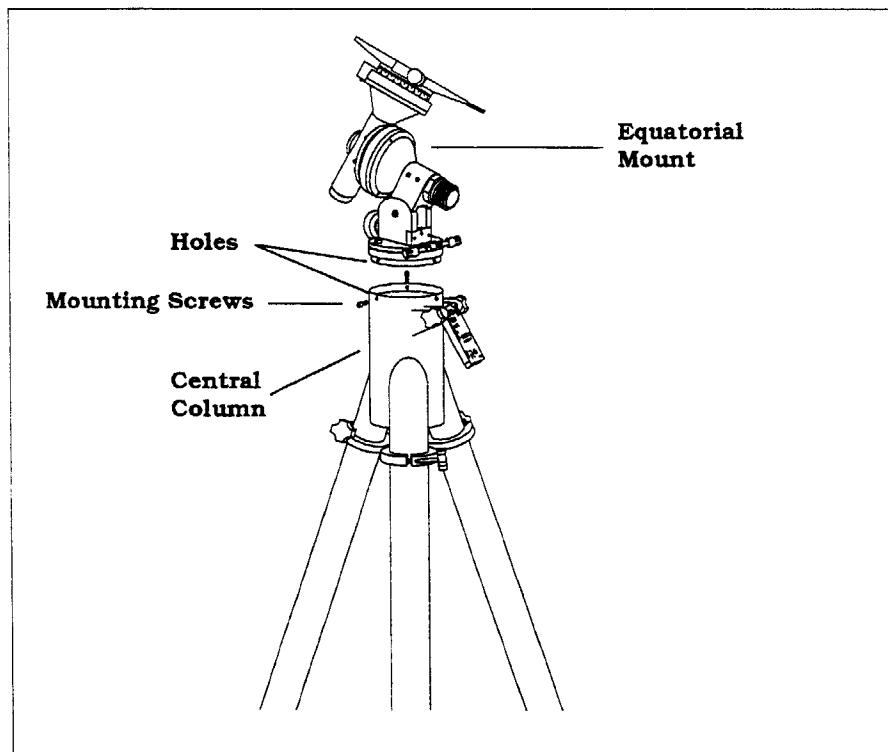

Figure 2-4
2. Rotate the equatorial mount on the central column until the holes in the mount line up with those in the central column (see figure 2-4).